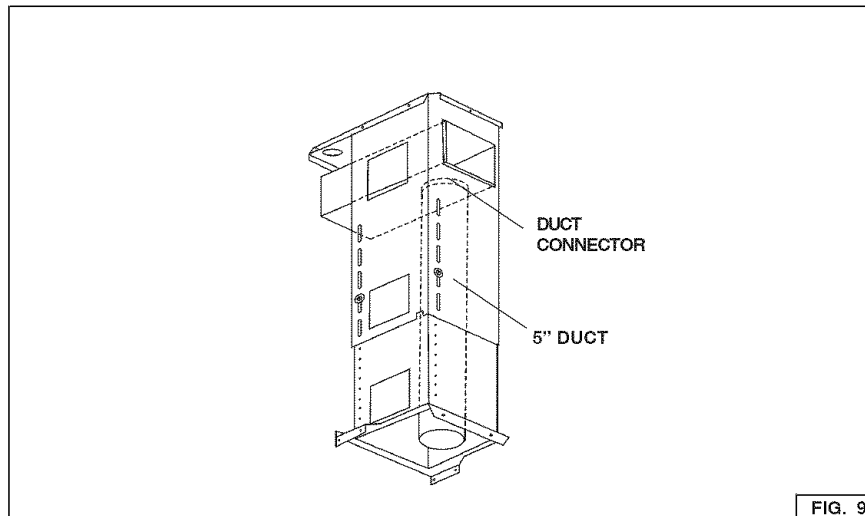

FIG. 9
2. Through the support frame openings fit the duct connector to the plenum locking it with a turning movement. Fig. 9.
3. Fix a 5" duct to the duct connector of the non-ducted recirculation plenum. Fig.9.